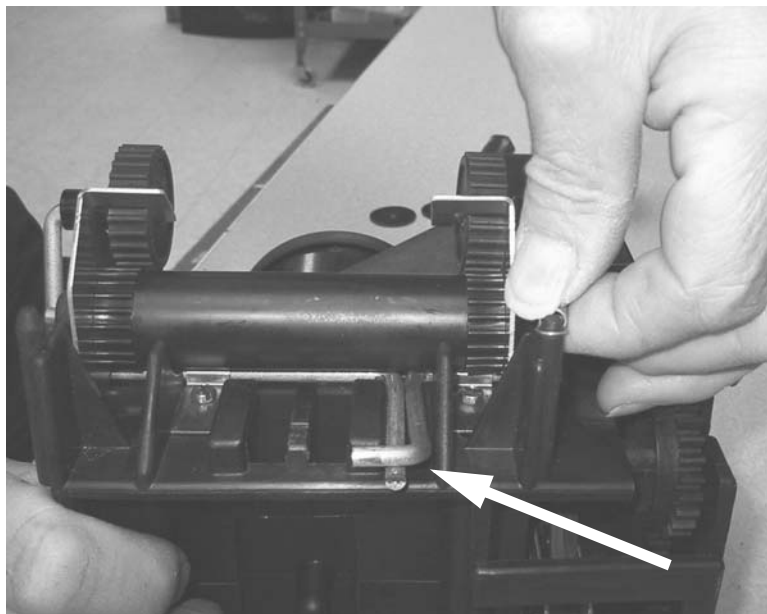

Figure 11
11. Reinstall the Idler Roller Assembly Springs. Make sure to position the Idler Roller Assembly wire forms as shown in Figure 11.